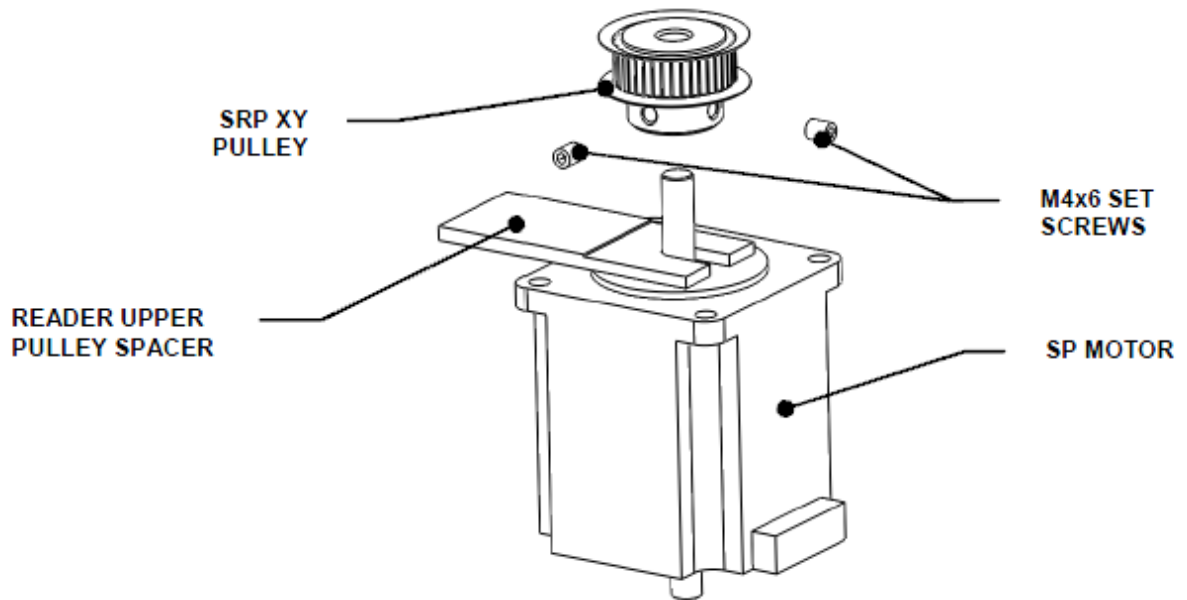

Figure S-4: Affixing the Pulley
1. Mount the pulley on the shaft of the motor (discard any set screws that come with the pulley) with the screws that were used on the old motor as shown in Figure S-4. Use the Upper Pulley Spacer Ø7.0x2.5 (DS2FIX006) to set the appropriate distance and affix the set screws with Loctite 222.